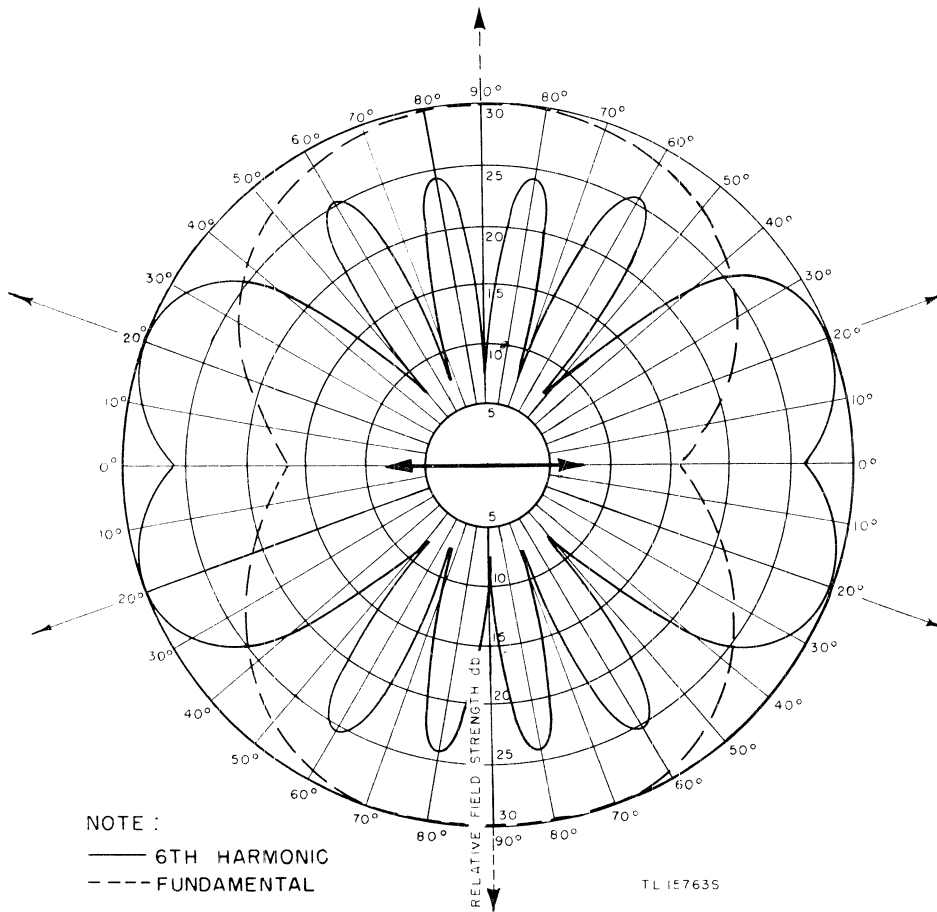
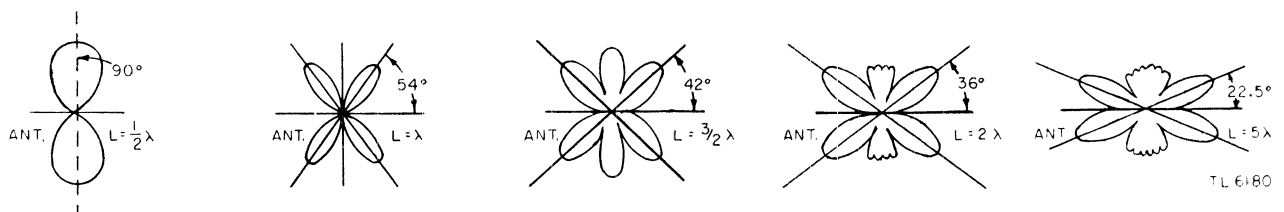

Figure 58. Radiation patterns of half-wave antenna on fundamental and sixth harmonic at radiation angle of 15° .
Figure 59. Free space patterns of long-wire antennas.
g. RADIATION PATTERNS (figs. 58 and 59). The pattern of the half-wave antenna in space is modified when the antenna is brought within proximity of the ground, as stated in *c* above. The radiation angle of any antenna is stated in terms of degrees, and it is that angle, with respect to ground, at which the radiated waves are most intense. It would be a difficult job to predict the exact angle of radiation (the directivity) of a half-wave antenna at any particular location without actually field-testing the antenna and feeder set-up. However, it is possible to get an approximate idea of results to be expected for work over long distances. The radiated patterns of a half-wave antenna operating on its fundamental and sixth harmonic frequencies at a radiation angle of 15° (representing an angle for long distance coverage for 28, 14, and 7 mc) are shown in figure 58. The patterns shown should be interpreted merely as an indication of the results to be expected. As can be seen by figure 58, operating an antenna at its harmonic frequencies changes the characteristics of its radiated pattern. In the case of a doublet antenna (half-wave) with a fundamental operating frequency of 2,500 kc, the same antenna becomes $1\frac{1}{2}$ wavelengths in length at the third harmonic and $2\frac{1}{2}$ wavelengths in length at the fifth harmonic. When the wire is a wavelength or more long, the radiation tends to concentrate more off the ends of the wire and radiates more power in its most favorable directions than a half-wave antenna in its favorable directions. The free space patterns of long-wire antennas are shown in figure 59.